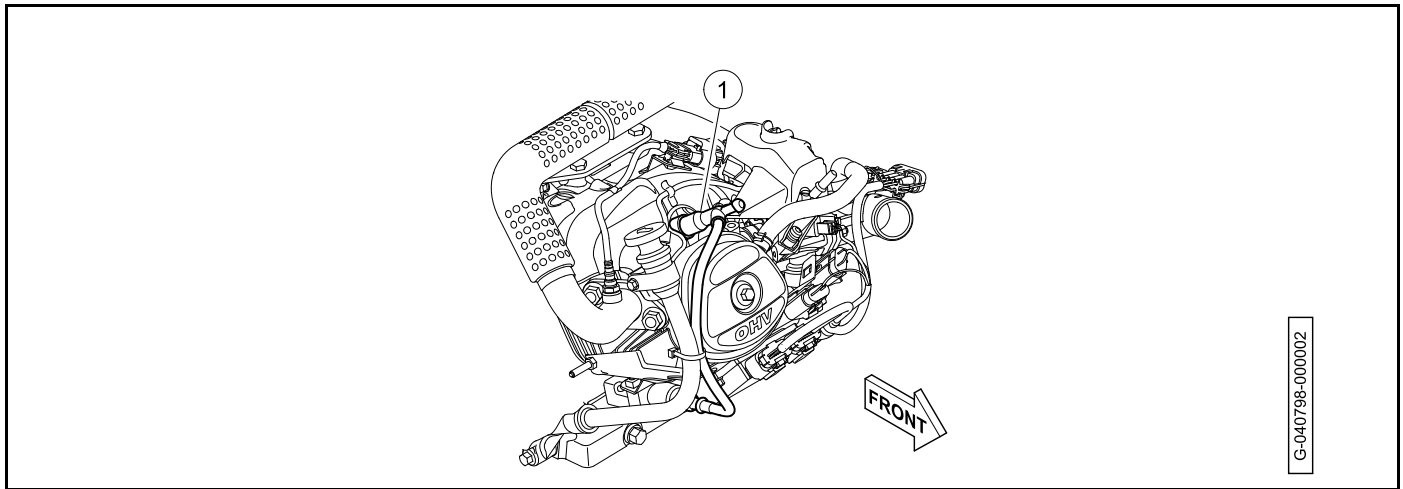

Figure 3-2 Spark Plug Wire
- 14.1. Disconnect the spark plug wire (1) (Figure 3-2, Page 3-5).